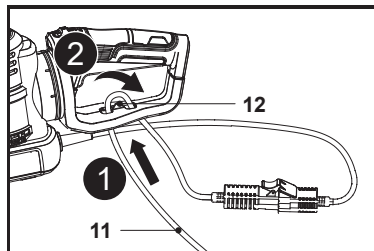

Fig. 3
2. Double the power cord (11) back, about 20 cm from the plug socket assembly and lead the loop through the hole of the cord retainer (12) and hang the loop over the hook (Fig. 3, steps 1, 2).